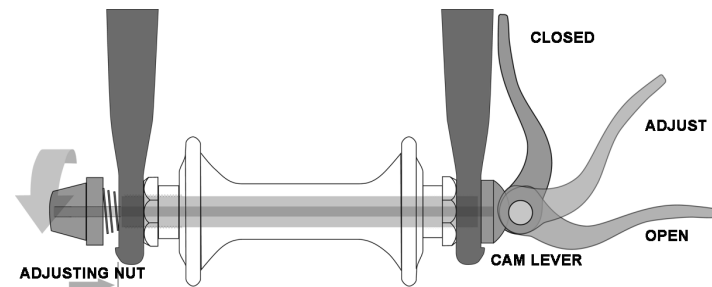
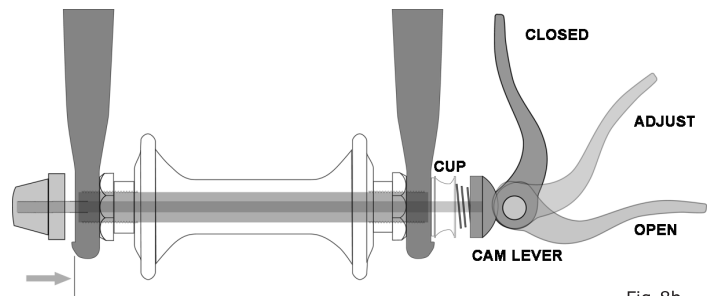

Fig. 8a
Fig. 8b
an over-center cam lever on the other (cam action system), [Fig. 8a & 8b].
There are currently two types of over-center cam wheel retention mechanisms: the traditional over-center cam [Fig. 8a], and the cam-and-cup system [Fig. 8b]. Both use an over-center cam action to clamp the bike's wheel in place. People also commonly refer to these as quick-release axles. Your bicycle may use one of these styles for the front wheel, and a different for the rear wheel.
### a. Adjusting the traditional cam action mechanism [Fig. 8a]
### b. Adjusting the cam-and-cup mechanism [Fig. 8b]
a. Adjusting the thru-axle mechanism [Fig. 8a & 8b]
(2) If your bike has cam action front wheel retention or "quick-release axle," move the cam lever from the locked or CLOSED position to the OPEN position [Fig. 8a & 8b]. If your bike has through-bolt or bolt-on front wheel retention, loosen the fastener(s) a few turns counter-clockwise using an appropriate wrench, lock key or the integral lever.
(3) If your front fork has a clip-on type secondary retention device, disengage it. If your front fork has an integral secondary retention device, and a traditional cam-action system [Fig. 8a] loosen the tension-adjusting nut enough to allow removing the wheel from the dropouts. If your front wheel uses a cam-and-cup system, [Fig. 8b] squeeze the cup and cam lever together while removing the wheel. No rotation of any part is necessary with the cam-and-cup system.
(1) If your bike has cam action front wheel retention, move the cam lever so that it curves away from the wheel [Fig. 8a & 8b]. This is the OPEN position. If your bike has a thru-axle, through-bolt or bolt-on front wheel retention, go to the next step.
(2) With the steering fork facing forward, insert the wheel between the fork blades so that the axle seats firmly at the top of the fork dropouts. The cam lever, if there is one, should be on rider's left side of the bicycle [Fig. 8a & 8b]. If your bike has a clip-on type secondary retention device, engage it.
(3) If your bike has a thru-axle front wheel mounting system, insert the thru-axle through the unthreaded dropout side and through the hub body, then thread the thru-axle into the threads of the opposing dropout.
(4) If your bike has a traditional cam-action mechanism: holding the cam lever in the ADJUST position with your right hand, tighten the tension-adjusting nut with your left hand until it is finger tight against the fork dropout [Fig. 8a]. If you have a cam-and-cup system: the nut and cup [Fig. 8b] will have snapped into the recessed area of the fork dropouts and no adjustment should be required.
(5) While pushing the wheel firmly to the top of the slots in the fork dropouts, and at the same time centering the wheel rim in the fork:
(a) With a cam-action system, move the cam lever upwards and swing it into the CLOSED position [Fig. 8a & 8b]. The lever should now be parallel to the fork blade and curved toward the wheel. To apply enough clamping force, you should have to wrap your fingers around the fork blade for leverage, and the lever should leave a clear imprint in the palm of your hand.
(3) On a derailleur-gear system, pull the derailleur body back with your right hand. Some rear derailleurs have a "lock" button designed to hold the derailleur in an open position when removing the rear wheel. Feel free to use this feature if your derailleur is equipped with it.
(4) With a cam-action mechanism, move the quick-release lever to the OPEN position [Fig. 8b]. With a through-bolt or bolt-on mechanism, loosen the fastener(s) with an appropriate wrench, lock lever or integral lever.
(1) With a cam-action system, move the cam lever to the OPEN position [see Fig. 8a & 8b]. The lever should be on the side of the wheel opposite the derailleur and free-wheel sprockets.
(a) With a cam-action system, move the cam lever upward and swing it into the CLOSED position [Fig. 8a & 8b]. The lever should now be parallel to the seatstay or chainstay and curved toward the wheel. To apply enough clamping force, you should have to wrap your fingers around the seatstay or chainstay for leverage, and the lever should leave a clear imprint in the palm of your hand.
Some bikes are equipped with a cam-action seatpost binder, also commonly referred to as a "seatpost quick release." The seatpost cam-action binder works exactly like the traditional wheel cam-action fastener [Section 4.A.2]. While a cam-action binder looks like a long bolt with a lever on one end and a nut on the other, the binder uses an over-center cam action to firmly clamp the seatpost [see Fig. 8a].